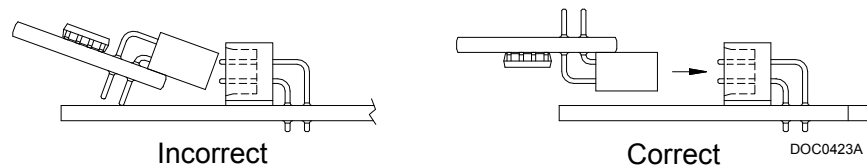

Figure 2. License Key Installation
6. Press the license key into the terminal until it is firmly seated (refer to *Figure 2*).